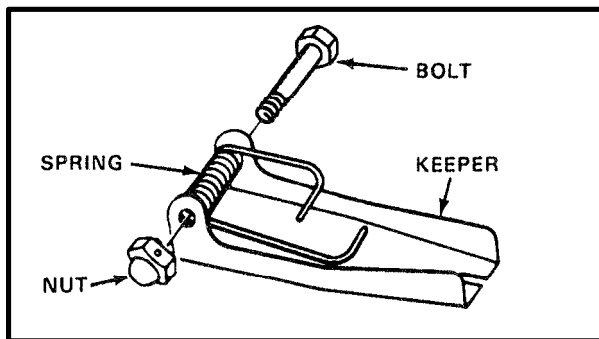

Figure 6-15. Spring-Keeper Assembly
- (2) Tilt the grabhook and remove the spring and keeper (Figure 6-15).